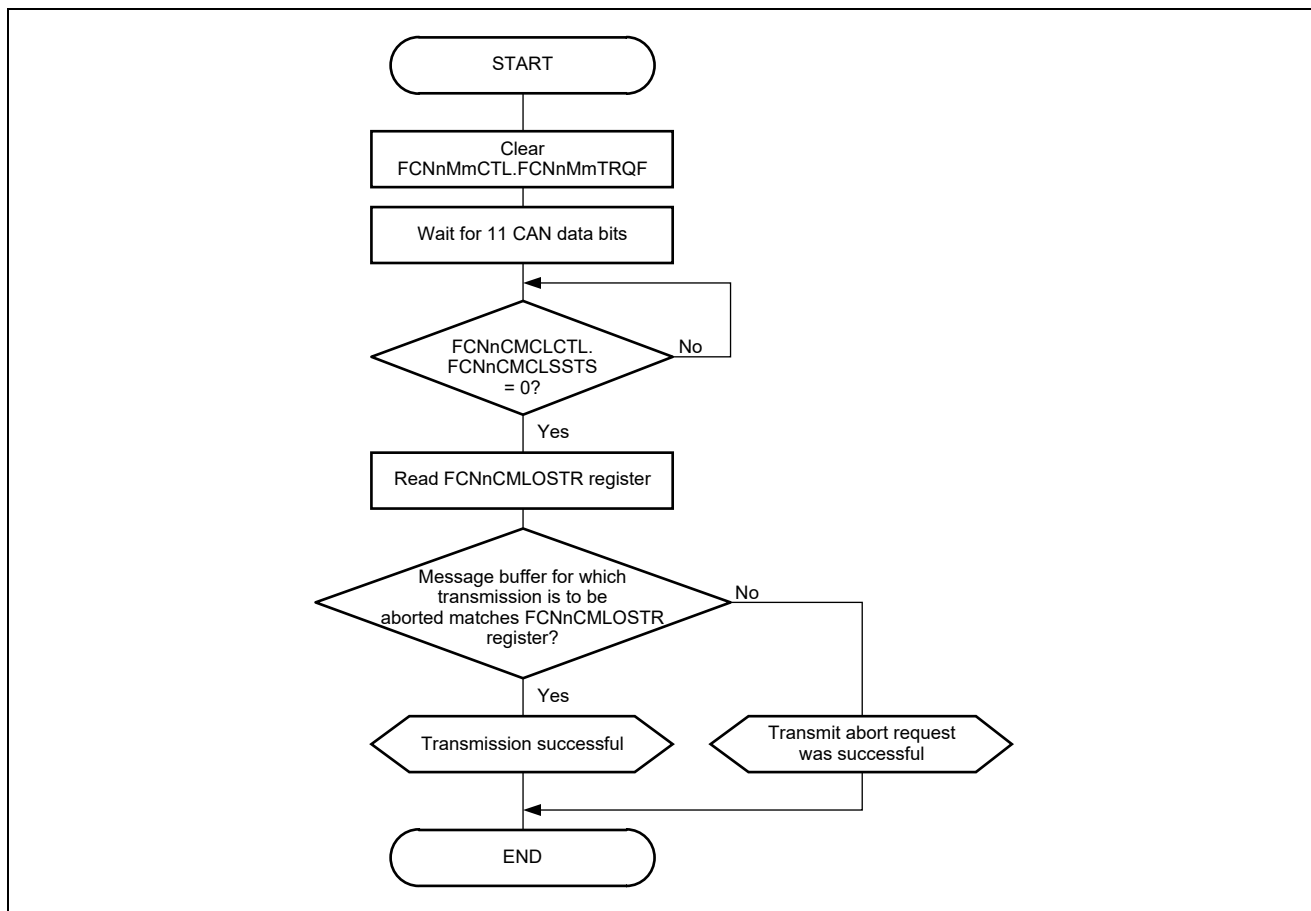
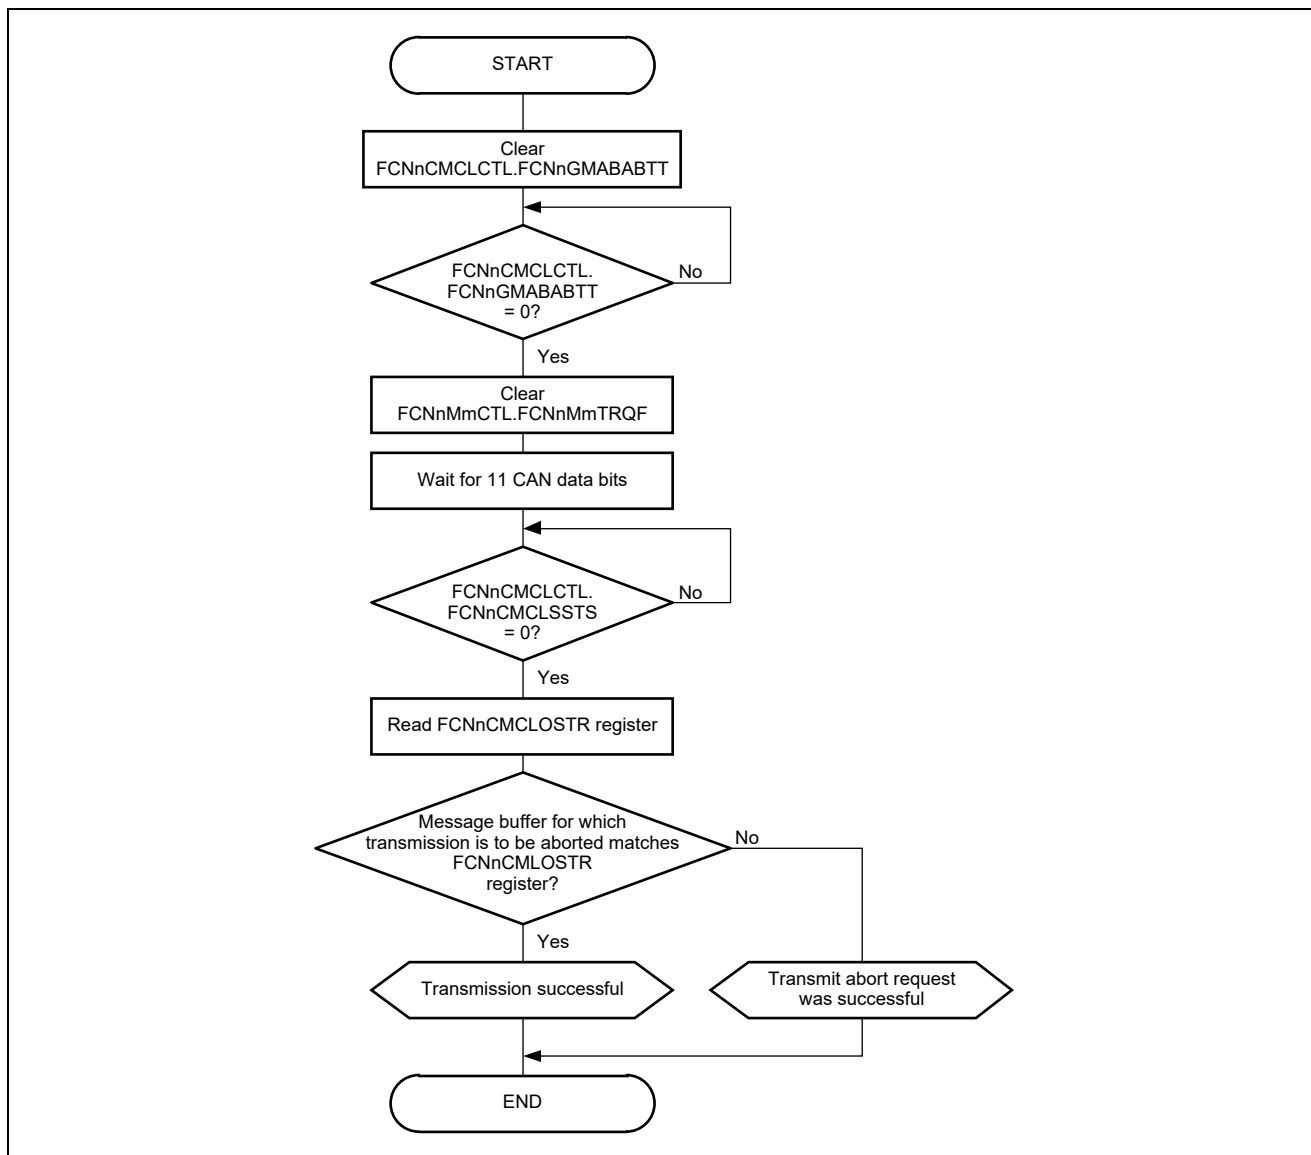
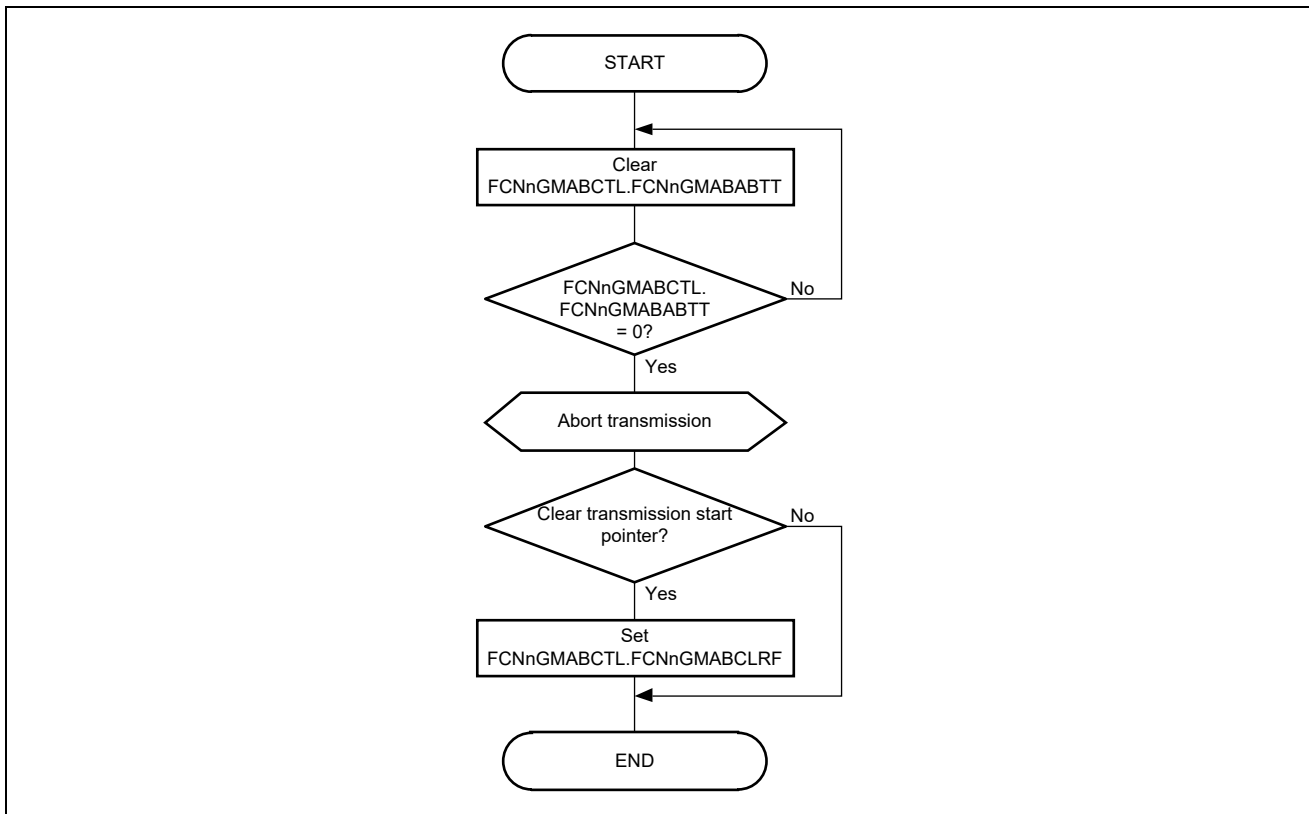
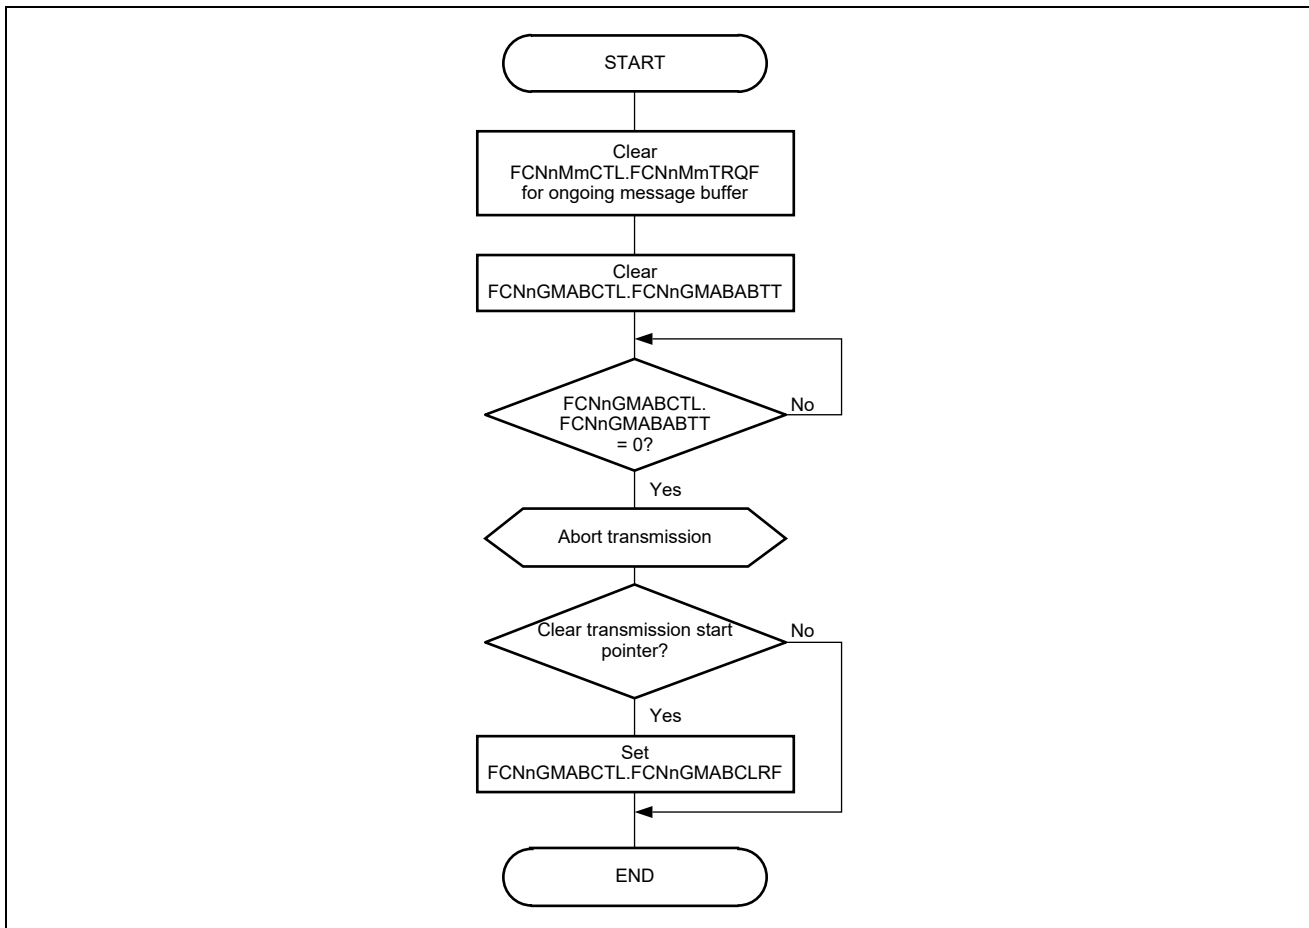

Figure 25.24 Transmission Abort Processing (except when Normal Operation Mode with ABT is being executed)
Figure 25.25 Transmission Abort Processing (in Normal Operation Mode with ABT) – Repeat Option for Aborted Message
Figure 25.26 ABT Transmission Request Abort Processing (in Normal Operation Mode with ABT) (1)
Figure 25.27 ABT Transmission Request Abort Processing (In Normal Operation Mode with ABT) (2)
- In the initialization mode following clearing of all transmission requests according to the transmission abort processing described in Figure 25.24, Transmission Abort Processing (except when Normal Operation Mode with ABT is being executed), during the operation mode (clear all the transmission requests according to the transmission abort processing described in Figure 25.25, Transmission Abort Processing (in Normal Operation Mode with ABT) – Repeat Option for Aborted Message, in the normal operation mode with ABT).
Figure 25.26, ABT Transmission Request Abort Processing (in Normal Operation Mode with ABT) (1), shows the processing which does not skip resumption of message transmission that was stopped when transmission from an ABT message buffer was aborted.
- 2. Issue a request for transition to FCN sleep mode/FCN stop mode after FCNnGMABCTL.FCNnGMABABTT has been cleared (after ABT mode has been stopped) following the procedure shown in Figure 25.26, ABT Transmission Request Abort Processing (in Normal Operation Mode with ABT) (1), or Figure 25.27, ABT Transmission Request Abort Processing (In Normal Operation Mode with ABT) (2). When clearing a transmission request in the area other than the ABT area, follow the procedure shown in Figure 25.24, Transmission Abort Processing (except when Normal Operation Mode with ABT is being executed).**
Figure 25.27, ABT Transmission Request Abort Processing (In Normal Operation Mode with ABT) (2), shows the processing which does not skip resumption of message transmission that was stopped when transmission from an ABT message buffer was aborted.
2. Issue a request for transition to FCN sleep mode/FCN stop mode after FCNnGMABCTL.FCNnGMABABTT has been cleared (after ABT mode has been stopped) following the procedure shown in Figure 25.26, ABT Transmission Request Abort Processing (in Normal Operation Mode with ABT) (1), or Figure 25.27, ABT Transmission Request Abort Processing (In Normal Operation Mode with ABT) (2). When clearing a transmission request in the area other than the ABT area, follow the procedure shown in Figure 25.24, Transmission Abort Processing (except when Normal Operation Mode with ABT is being executed).